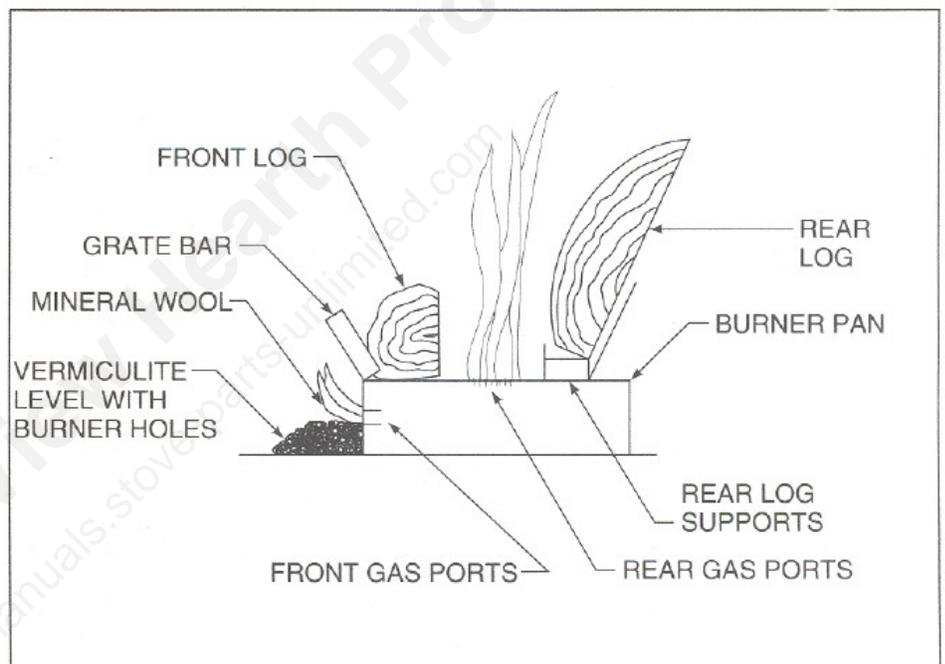

Figure 9
Remove the (4) logs from carton and place as shown in Figure 9. (page 7). Log placement is critical to the appearance of the flame.
Spread vermiculite between the front of the burner pan and the vermiculite retainer. Level of vermiculite should be up to the bottom of gas ports (holes) in front edge of burner. Place mineral wool over the gas ports. See Figure 9.
Visually check the flame of the burner periodically, making sure the flames are steady; not lifting or floating. The flame color should be blue with yellow tips. The ends of the flame sensor should be covered with flame. See Figure 8A for EZ/EZL or 8B for EZE/EZLE and Figure 9.